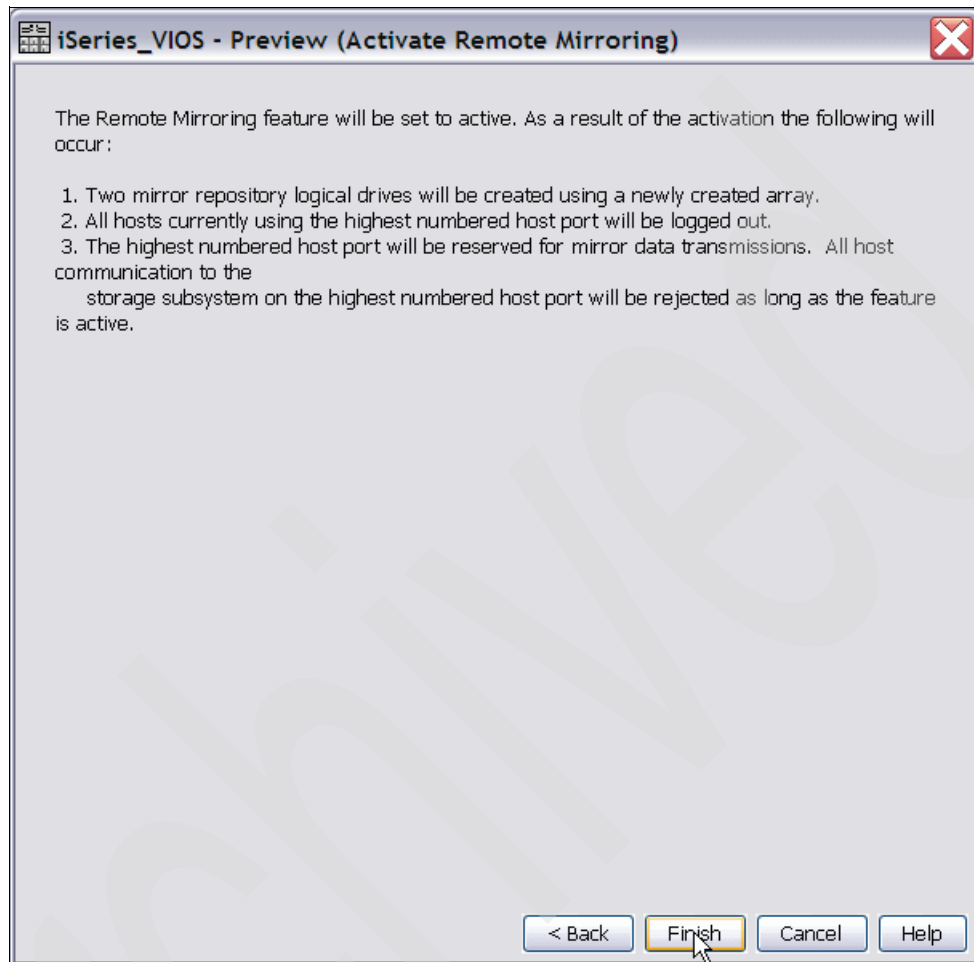

Figure 8-31 Confirm activating of the remote mirroring feature
4. On the next window you confirm the activating of the remote mirroring feature, as shown in Figure 8-31. When activating this feature two host ports with the highest port number, one on each controller, are assigned for remote mirroring replication.